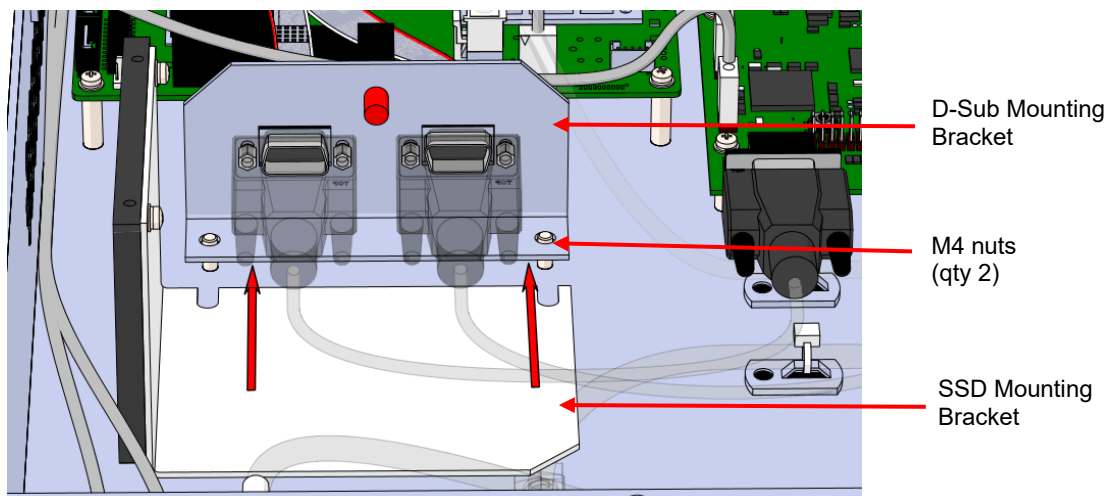

Figure 10: Installing the SSD Assembly
- (g) Inside the controller, use a 7-mm nut-driver to loosen the two (2) M4 nuts on the D-sub mounting bracket (see Figure 10). Slide the SSD mounting bracket with SSD underneath the D-sub mounting bracket, aligning the slots with the existing studs. Re-tighten the M4 nuts, securing both brackets in place.